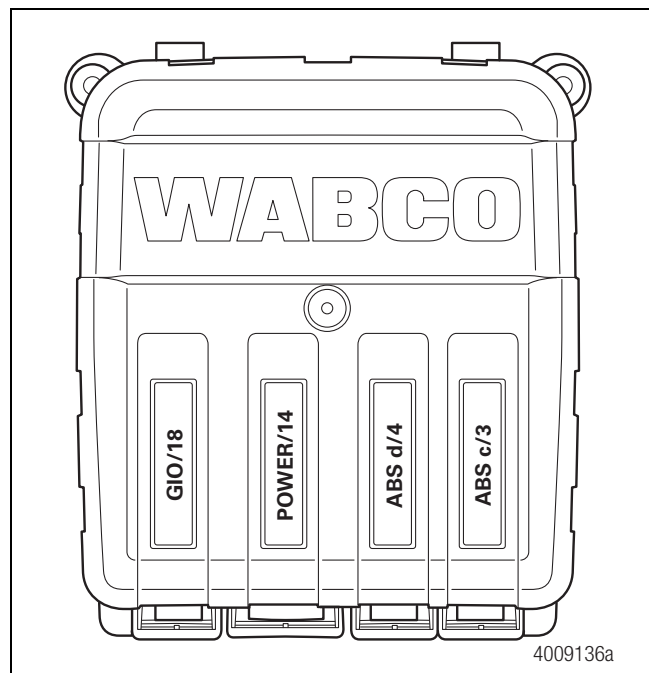
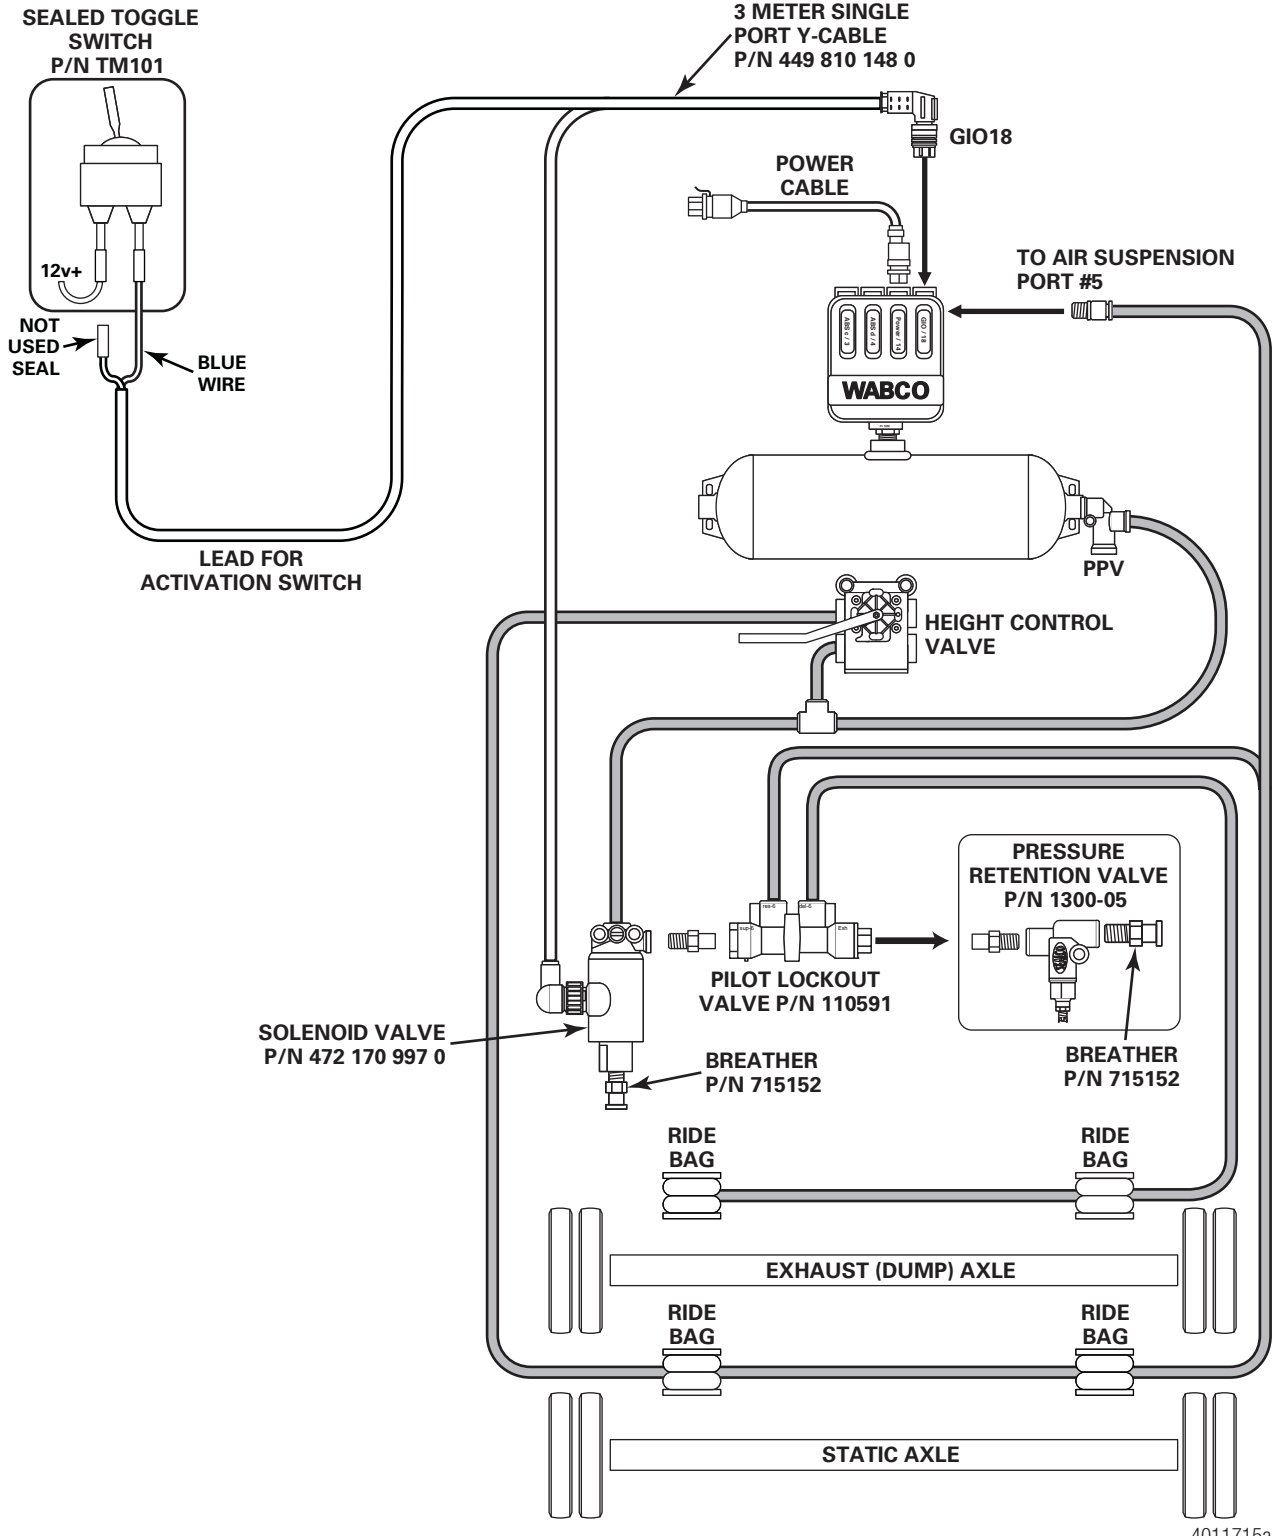

Figure 3
Figure 4
5. Connect the single port Y-cable, part number 449 810 148 0, to the ECU port labeled GI018 and secure it with the locking tab. Figure 3 and Figure 4.
- Connect the single-port Y-cable socket to the 3/2 solenoid valve, part number 472 170 997 0. Twist the socket to ensure it locks securely to the valve. Figure 4.
NOTE: Connect the blue wire to its extension lead within a junction box if possible. If a junction box is not available, ensure that the connection is weatherproofed and electrically insulated. Figure 4.